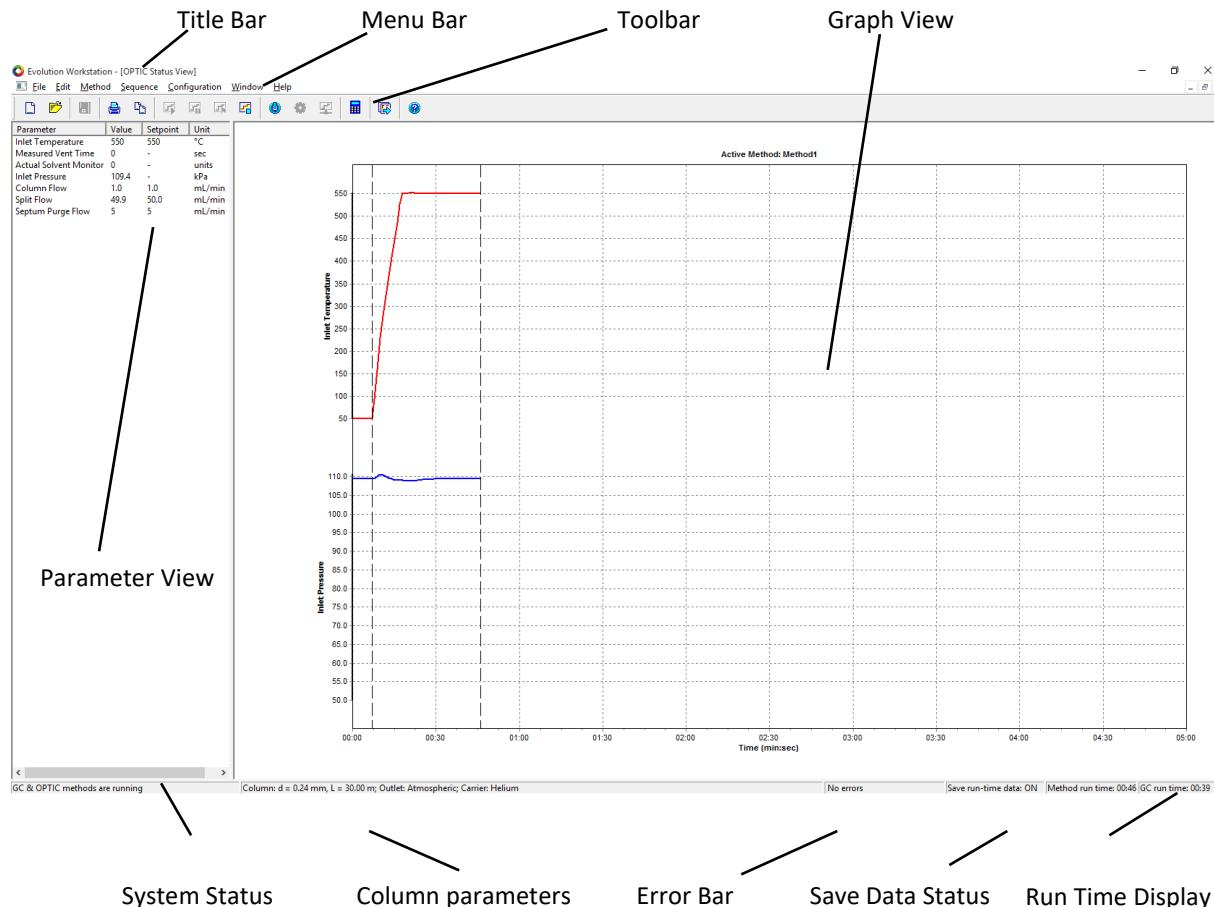

Figure 6.1 Example of EW Status Window
6. Start the Evolution Workstation Software. In case the access control is enable, the login dialog is displayed. The Evolution Workstation software starts up and the status window is displayed (Fig. 6.1).
An example of the Evolution Workstation Status View is shown in Fig. 6.1 below.